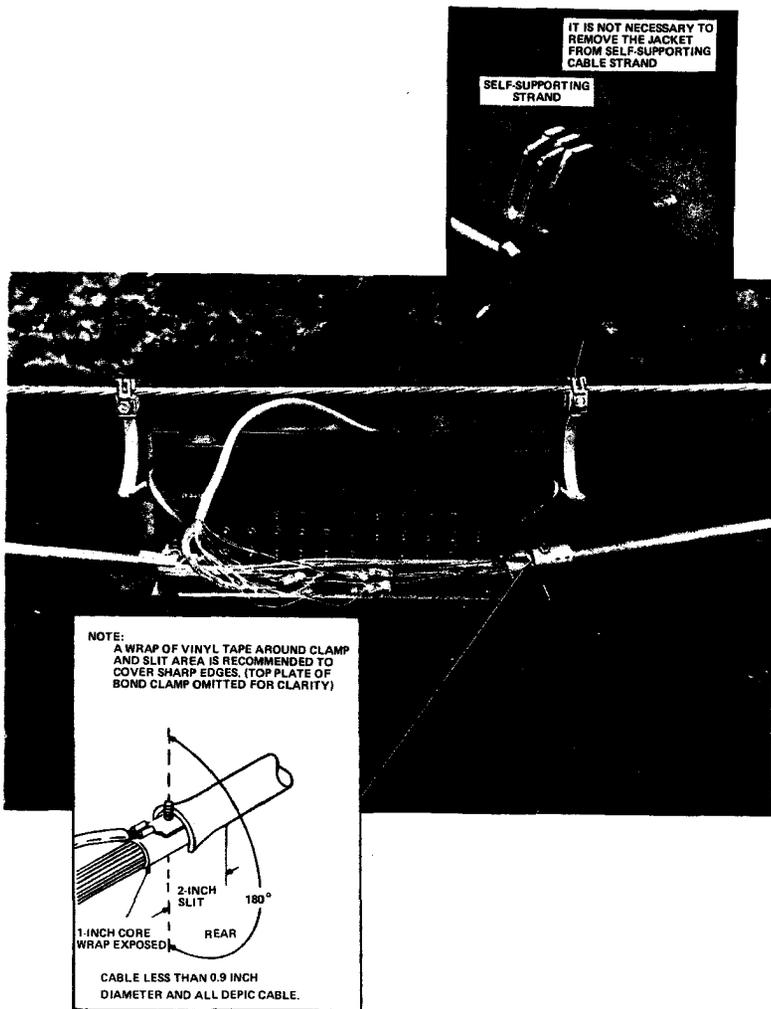

Fig. 21—Installing Terminal Panel Assembly (105A-Type Cable Terminal With Soft Boots)
on the strand with the bolts only finger tight (Fig. 21). If desired, the cable may be placed in front of the terminal panel assembly to provide additional working space.
4.13 Install the bond clamps by sliding the inner shoe of the bond clamp between the core wrap and metal shield until the threaded stud hits the end of the sheath (Fig. 21). Tighten the clamp using a 216-type tool only. If a 105-E series is being installed, bond the cable using a bond clamp in accordance with local procedures.